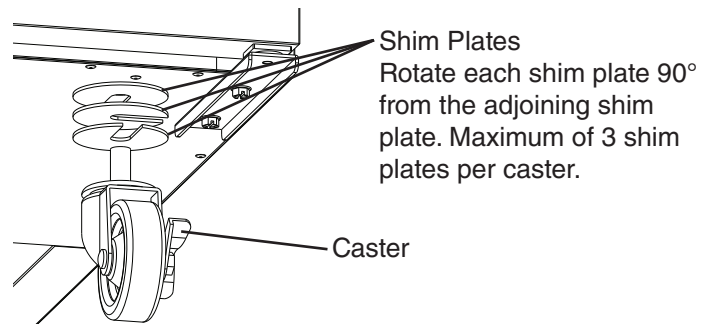

Fig. 4
- 3) Position the necessary number of shim plates in place (no more than 3 per caster). If using more than one shim plate, rotate each additional shim plate 90° from the adjoining shim plate so that the slots are not aligned. See Fig. 4.